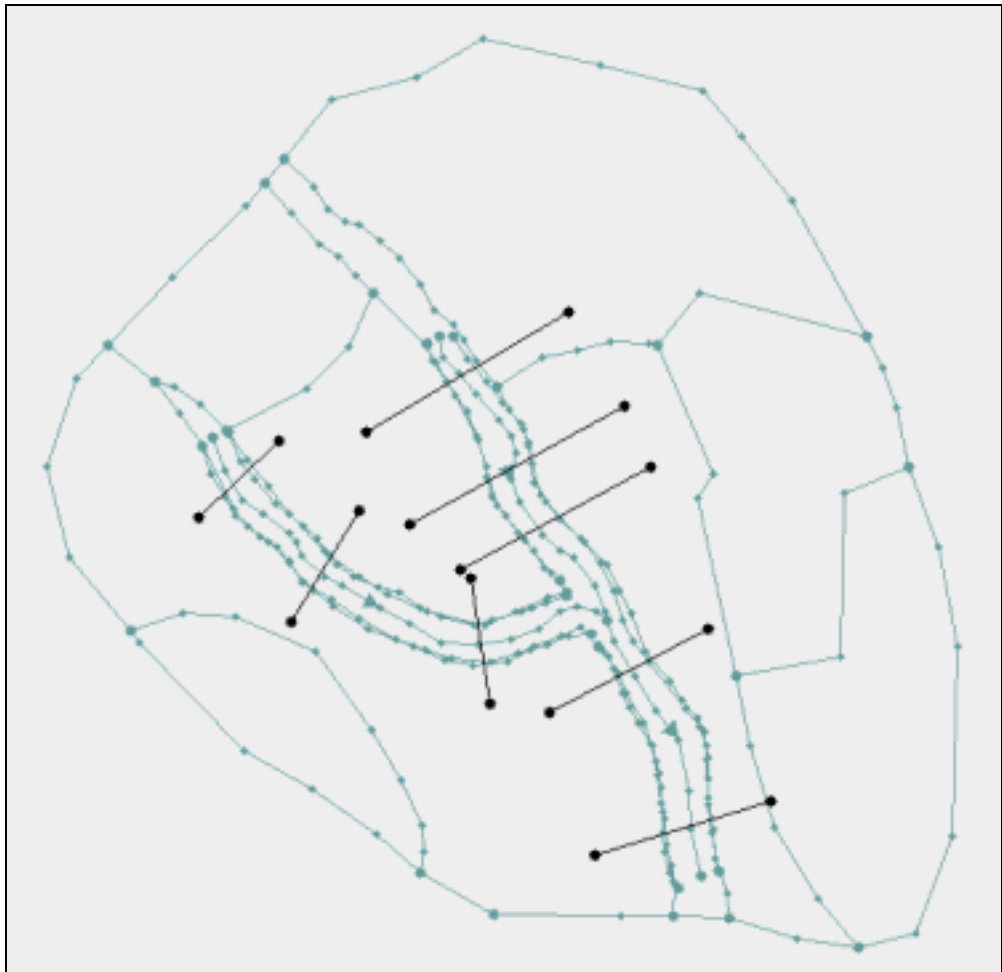

Figure 15.5 Cross-section coverage
30. Create at least two cross-sections on each reach by clicking a point on one side of the reach then double-clicking a point on the other side of the reach as shown in Figure 15.5.